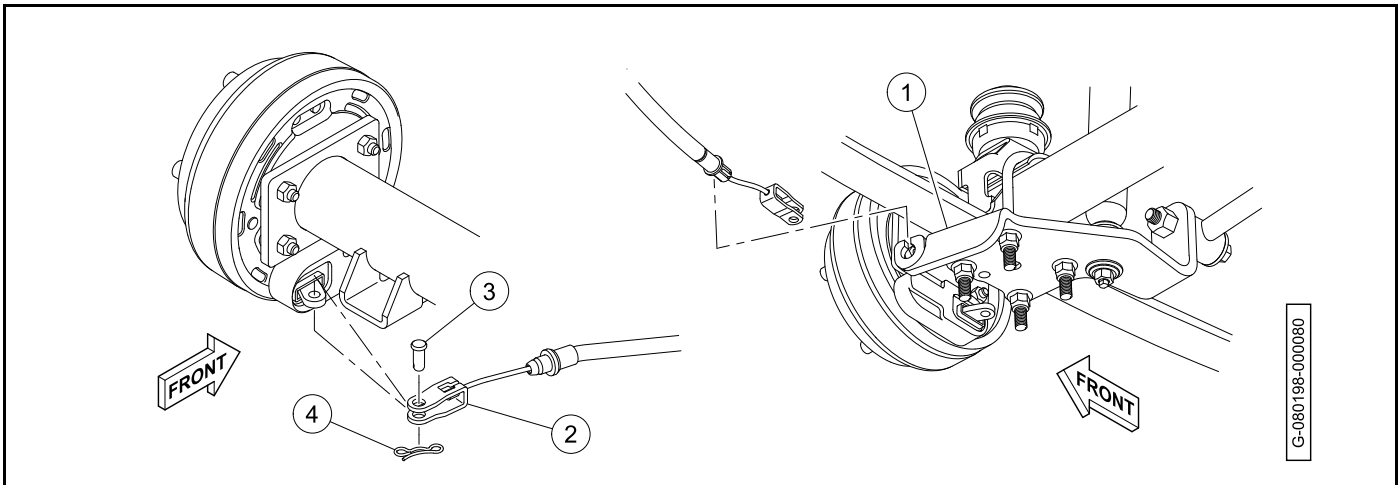

Figure 9-16
2. Install the bolt (2) and nut (3). Tighten the nut to 18.5 lb·ft (25 N·m).
4. Install the bolt (4) and nut (5). Tighten the nut to 18.5 lb·ft (25 N·m).
5. Install the shock mount bracket (6), U-bolts (7), and nuts (8). Tighten the nuts to 45 lb·ft (60 N·m).
7. Install the rubber bushing (9), cup washer (10), and nut (11). Tighten the nut until the rubber bushing is the same size as the cup washer.
8. Install the brake cable onto the shock mount bracket (1) (Figure 9-16).